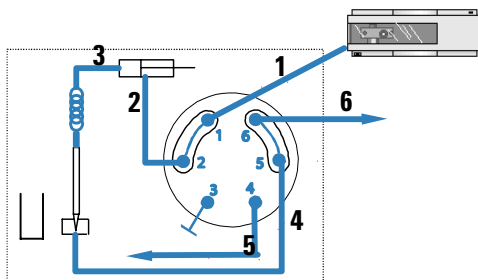

Figure 3 Plumbing diagram (main pass)
- Connect the outlet of capillary G1375-87322 to port #1 of the Micro Well-plate Sampler valve (see figure 3).
- Replace the seat capillary (capillary #4, figure 3) with the 75 µm seat capillary G1375-87316 found in the Nano Pump accessory kit.
- Connect the capillary G1375-87323 (capillary #6, figure 3) to port#6 of the Micro Well-plate Sampler valve. The other end of this capillary should be placed over a paper towel or over a baker.